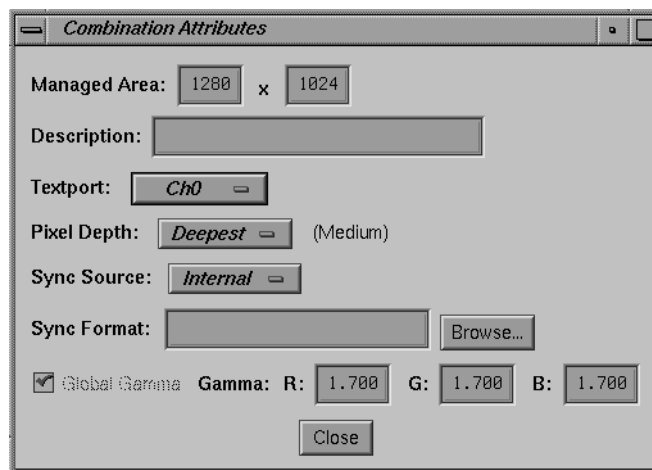

Figure D-5 Combination Attributes Window
1. Click *Edit globals* in the main window's bottom right corner. The Combination Attributes window appears, as shown in Figure D-5.